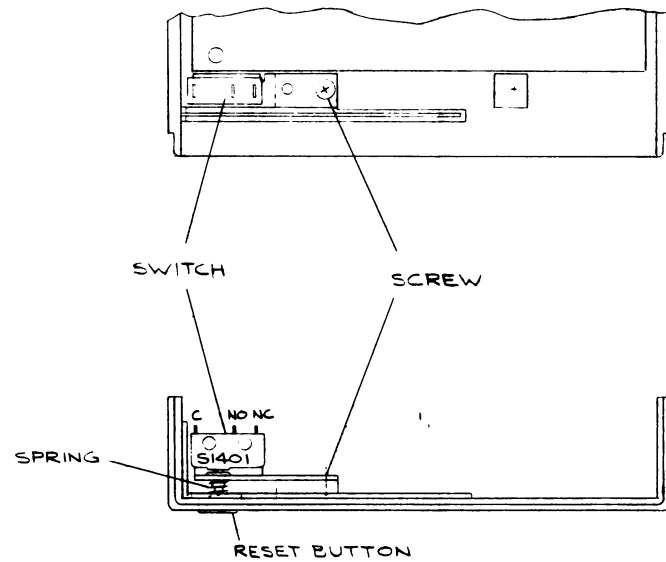

FIG. 2
8. INSTALL RESET BUTTON, SPRING AND SWITCH WITH SCREW PROVIDED (FIG. 2).